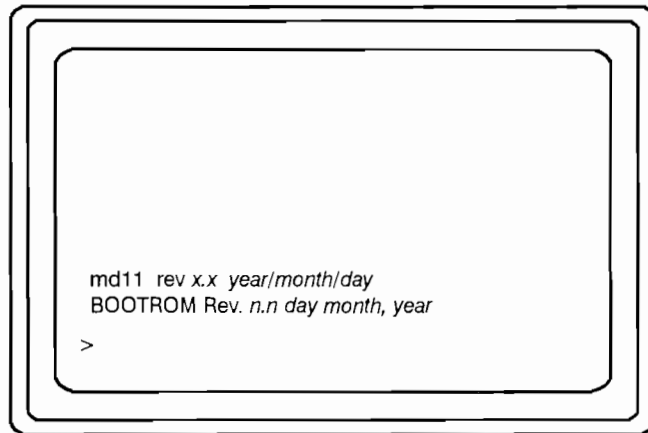

Figure 10-22. Returning to the MD Prompt
7. The system returns to the MD level as shown in Figure 10-22.